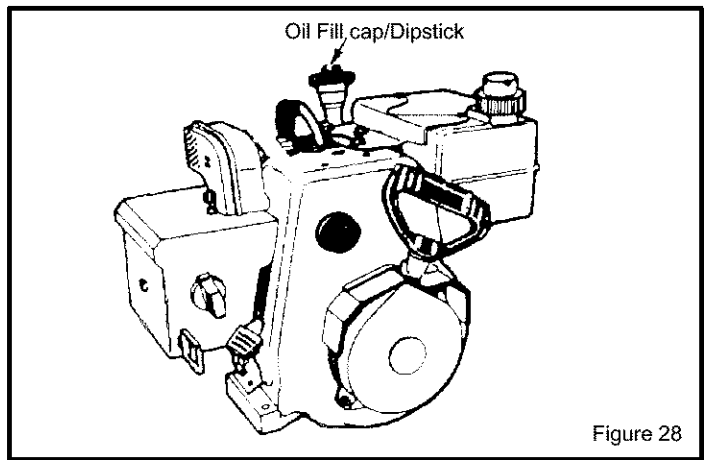

Figure 28
**To Drain Oil** – Position snow blower so that the oil drain plug is lowest point on engine. Remove oil drain plug and oil fill cap and drain oil into a suitable container (Figure 28).